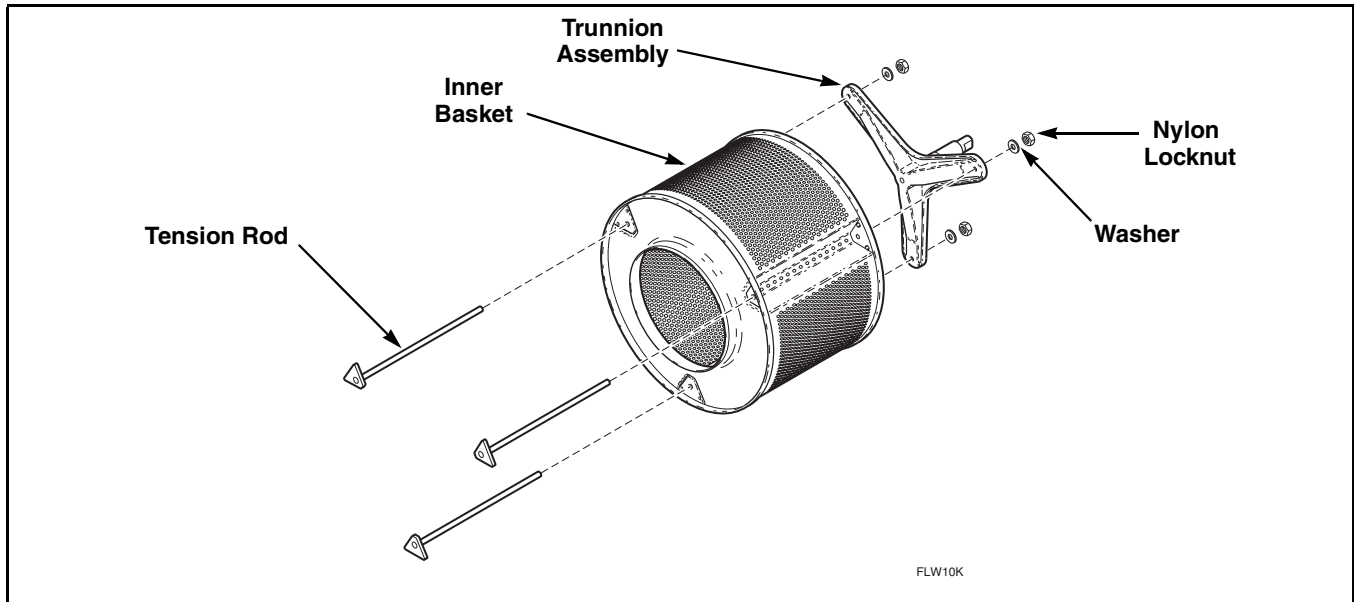
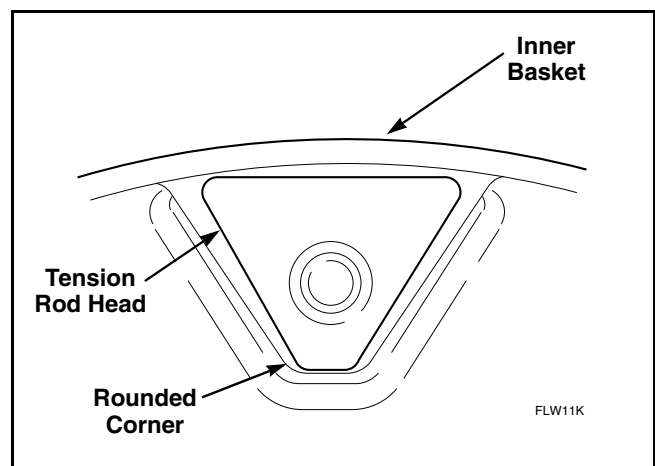

Figure 21
Figure 22
- Remove nuts, washers and tension rods holding trunnion to inner basket. Refer to *Figure 21*.
- Insert tension rods into inner basket. Refer to *Figure 21*. Position each rod so the rounded corner of triangular head faces the center of inner basket. Refer to *Figure 22*.